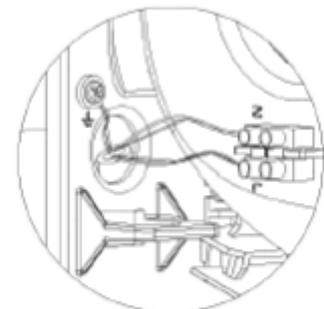

Fig. 8
4. Connect the Neutral and Line (N, L) wires to the terminal block and the A/V cable to the earth connection screw (Class I) (see figure 8).